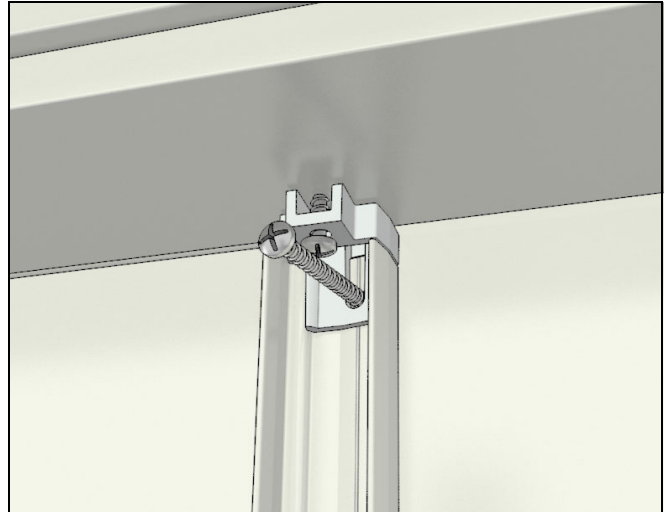

Figure 26
9. Install the head jamb mull post reinforcement by aligning it to the mull post base and sliding it up until it contacts the head jamb. Use #8 x 1-7/8" screw to fasten the mull post reinforcement to the head jamb. Use #8 x 1-7/8" screw to fasten mull post reinforcement to the stationary panel. See Figure 26